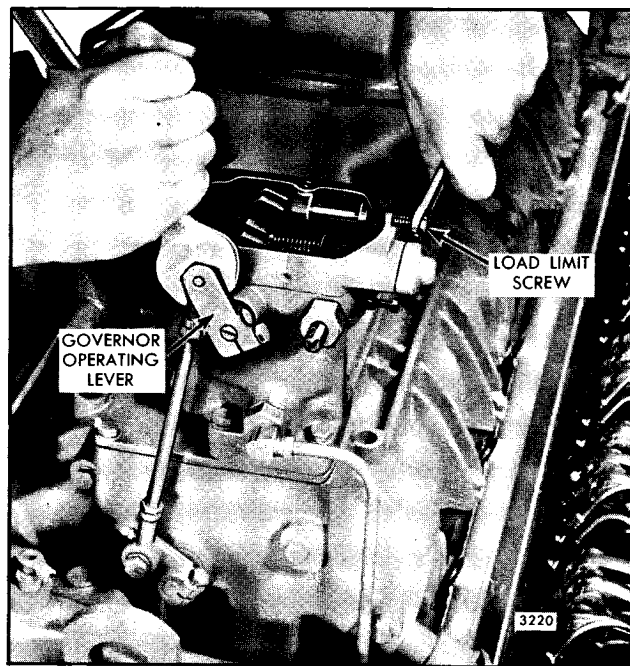

Fig. 7 - Adjusting Load Limit Screw
1. With the governor cover off and the load limit screw lock nut loosened, place and retain the governor operating lever in the FULL-FUEL position as shown in Fig. 7.